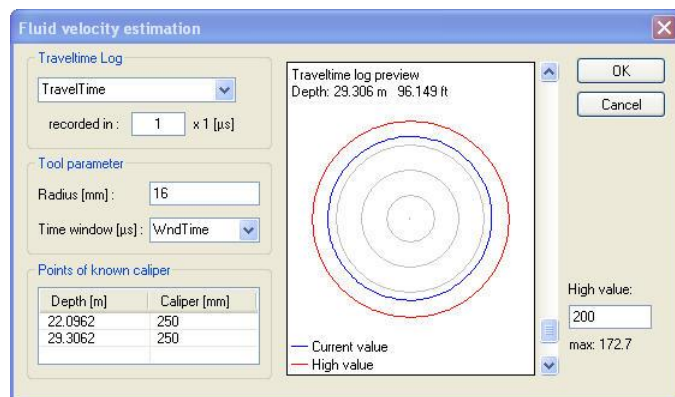

Figure 7-1 Fluid velocity estimation dialog box
1. From the **Process > Image Module > Image Logs** menu in WellCAD select the **Estimate Fluid Velocity** entry. The corresponding options dialog box will open (Figure 7-1).